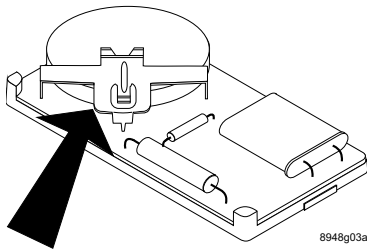

Figure 1. Slide Battery Out of Holder at Location and In Direction of Arrow
4. When prompted by the panel to trip the sensor for learning, remove the sensor cover and slide the battery about half-way out of the battery holder (see Figure 1).